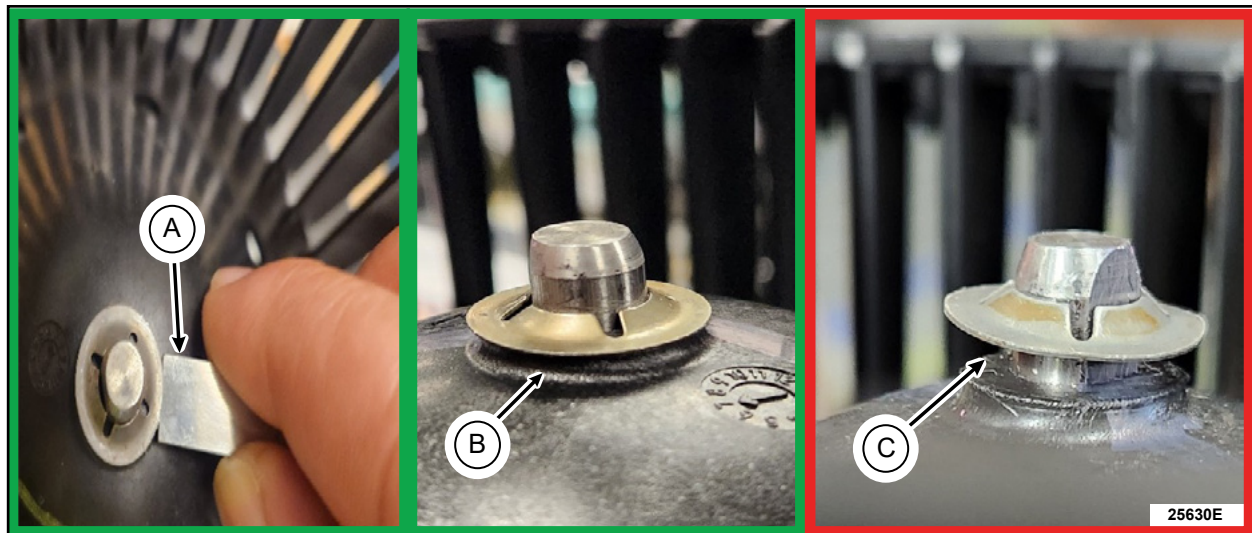

FIGURE 5
8. Seat the retaining clip down the shaft of the blower motor. See Figure 5.